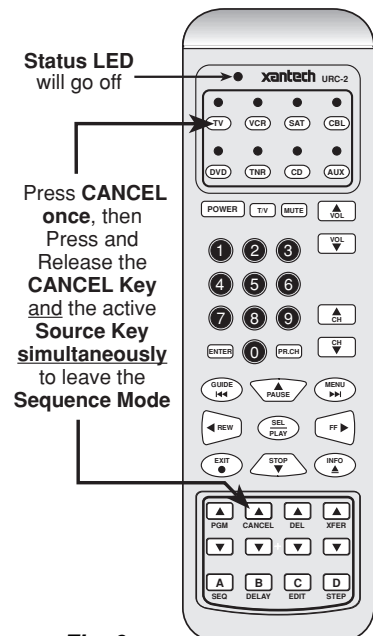

Fig. 9
6. To **exit** the Sequence Mode completely, press **CANCEL** once, then press **CANCEL** and the active **Source Key** simultaneously. The Status LED will go out. Refer to Fig. 9.
6. When finished with the sequence, exit **Sequence Mode** per Fig. 9. The delay times entered are now stored as part of the sequence.